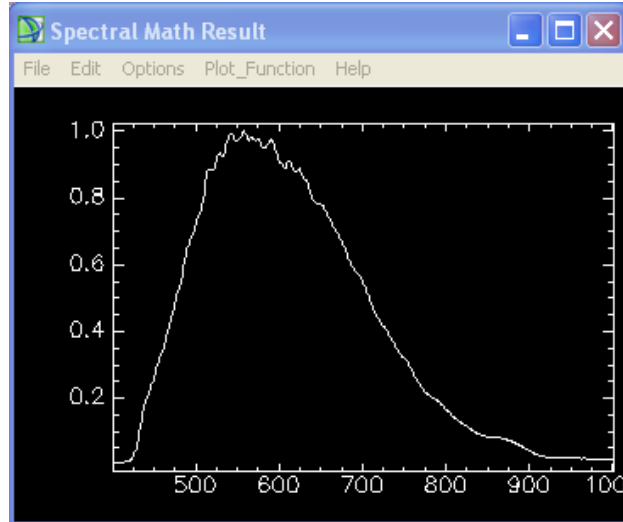

Figure 5. Correction spectrum
12. Save the Correction spectrum as a Spectral Library using the File > Save Plot As tool. Use the file name Correction Spectrum - SL, which identifies it as the current correction spectral library. Save it in your imaging folder where it can be accessed easily with the Normalized for Lamp Spectrum feature. Note the maximum value of the curve is 1.0 (see Figure 5).